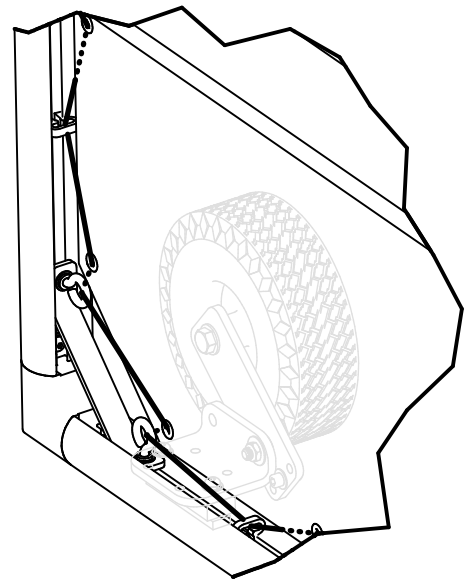

FIGURE E-7
12. In the lower front corner, weave the long end of the rope through the grommets and eyebolts as shown, in Figure E-7. Continue to weave the rope through the grommets along the bottom edge as with the other edge of the covers.